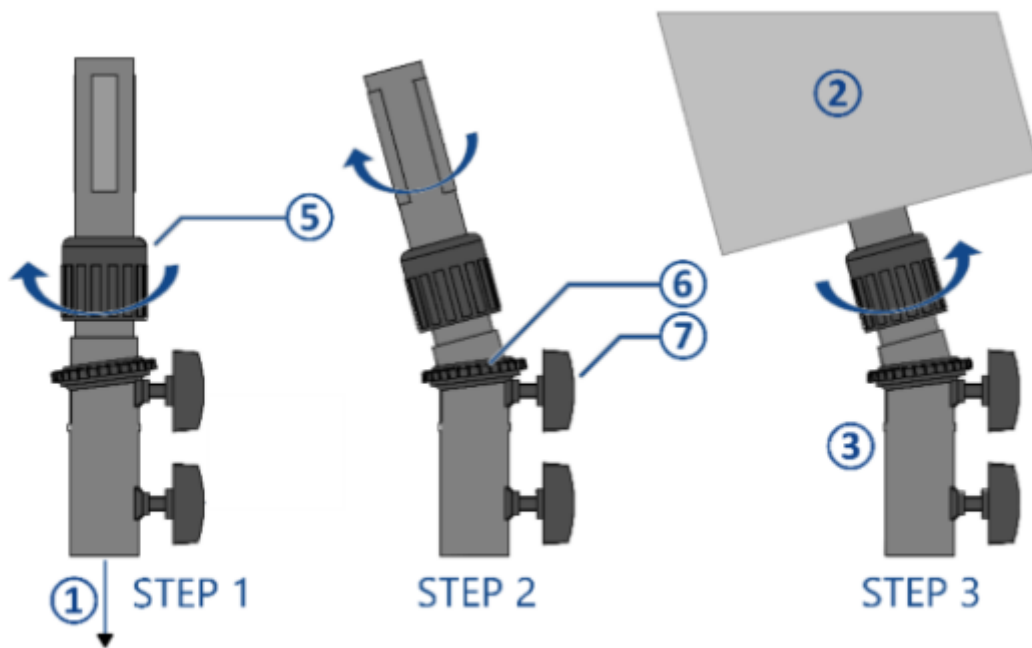

Figure 59. Tilt adapter.
2. Mount and aim the loudspeaker — Figure 59
- Set the adapter to about **5° downward** and tighten upper clamping screw ⑦. Turn lock ring ⑤ toward **OPEN**.
- Turn lock ring ⑤ toward **CLOSE** until secure, then aim according to the current CABR-2026 drawing.
View CO-160a Figure 59 — tilt/angle adapter